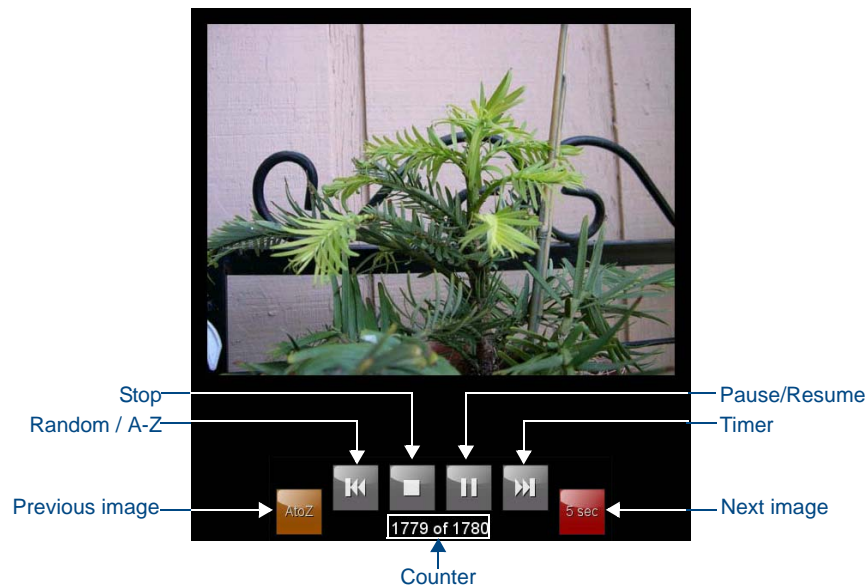

FIG. 5 Picture View Configuration Popup Menu
- When the images begin to display, touch any place on the touchscreen to open the configuration popup menu (FIG. 5).